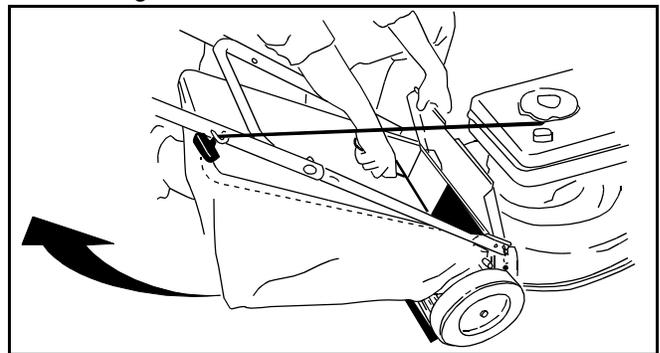

Figure 19
- Lift discharge door and pull grass bag up and away from the mower to dispose of the grass clippings. See Figure 19.